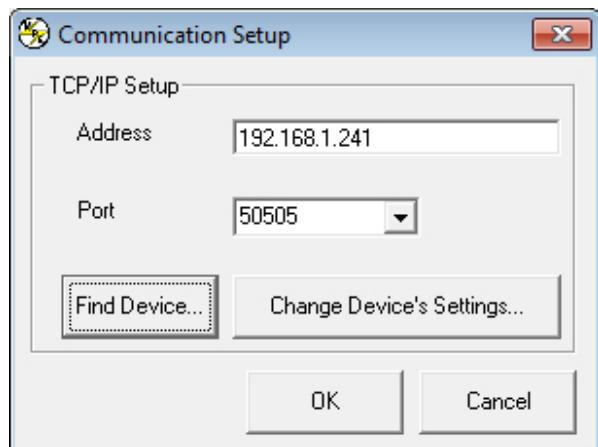
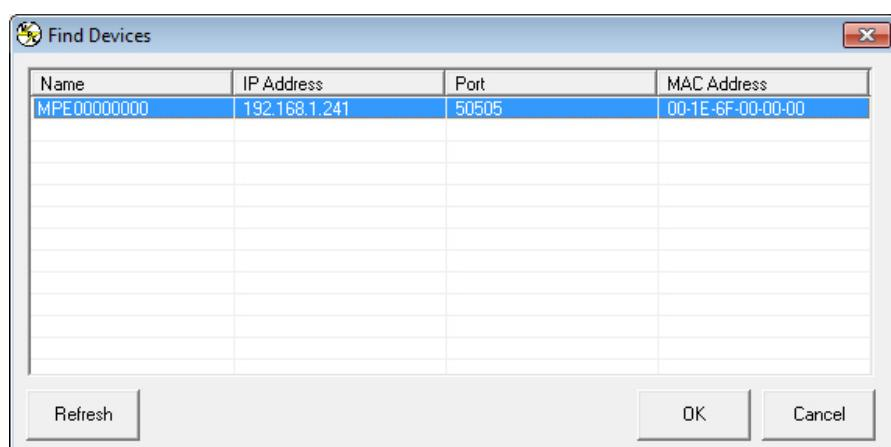

Figure 4.2. LXI Communications Setup
Figure 4.3. Find LXI TCP/IP Ethernet device
*Figure 4.2, “LXI Communications Setup”* illustrates the communications setup for LXI TCP/IP Ethernet communications. The address specifies the desired device on the network to establish communications. To locate a particular device or to set a new address, press Find Device or Change Device's setting, respectively. The Find Devices panel displays all devices on the bus that are available for communications, as shown in *Figure 4.3, “Find LXI TCP/IP Ethernet device”*. The Change Device's Setting allows the address of the particular device to be changed. When changing a device's address, the address in the Communication Setup will also change allowing continued communications. Similar panels are displayed for IEEE 488 GPIB, RS232, and RS485 communications.